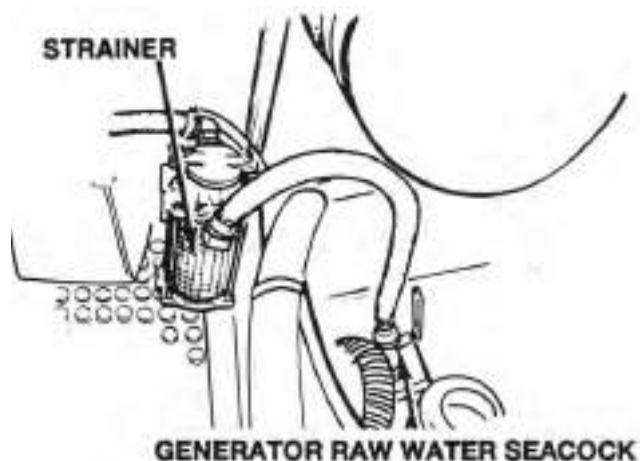

Figure 4-7 – Generator Raw Water Intake Strainer and Valve
19. If your yacht has a generator, check that generator water strainer is clean. (See **Figure 4-7**.) Clean strainer if necessary. Remove strainer lid and clean out debris.